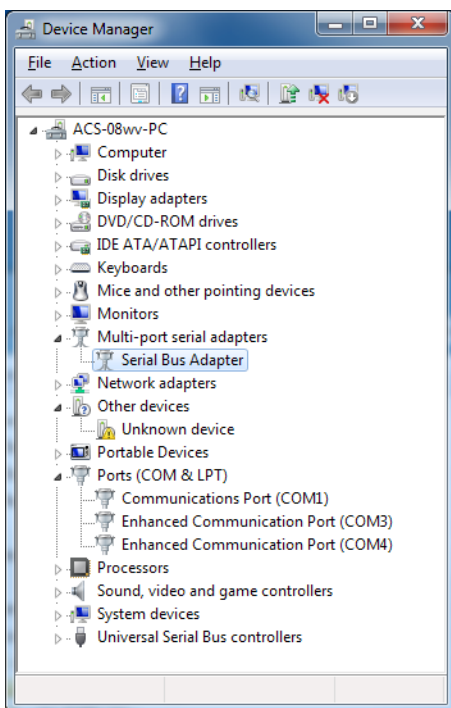

Figure 3
Figure 3 shows a sample Windows 7 Device Manager view and a typical assignment of COM ports on a PC with (1) NCC-2F board installed. The port assignments for the NCC-2F are labeled Enhanced Communication Port, once installed.